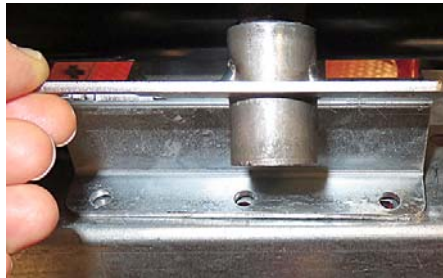

Figure 32
35. Detach the electrical connector from the dispose assembly. Position over the pre-drilled holes (see Figure 32).